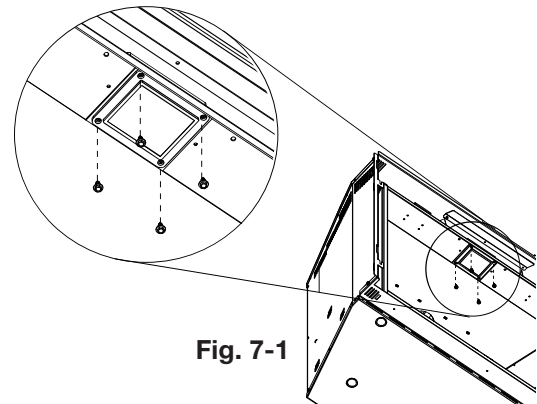

Fig. 7-1
- C. Remove the 4 screws securing the lens frame (**Fig. 7-1**). This frame retains the glass lens. The lamp can now be accessed.